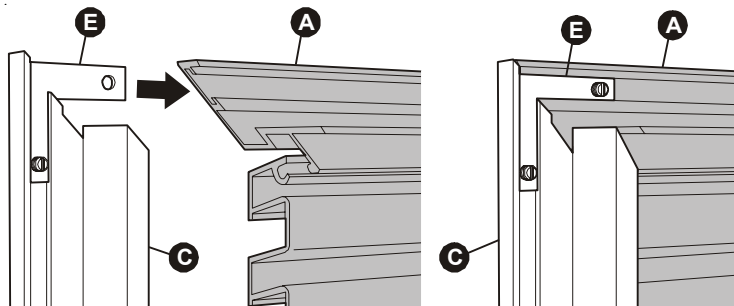

Figure 4
- Join each side trim (B and C) to the top trim (A). Make sure the ends of the Grille Assembly are captured in the channel of each side trim, then tape in place. Gently secure brackets (E) to top trim (A) by tightening set screws (F), only until snug to avoid dimpling the trim face. See Figure 4.